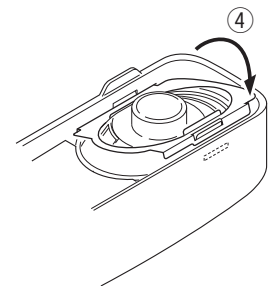

Fig. 7-3
1. Insert two tabs of the holder (J19-5485-12) into the hollows in the top of the panel. ( ① )
2. Push the two tabs of the holder in on the opposite side of those in step 1 above and fit them into the hollow in the bottom of the panel. ( ② )
3. Install the speaker holder onto the panel. ( ③ )
6. Insert the hardware fixture (J21-8481-03) into the hollow of the panel as shown in Figure 7-3, then push two parts of the hardware fixture and fit it into the hollow of the top of the panel. (Fig. 7-3 ④ )